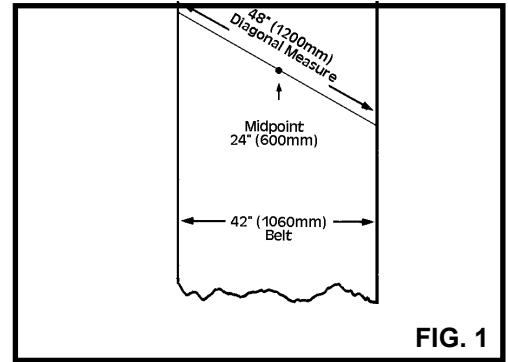

FIG. 1
- Remove the protective cap from the adjusting screw (Fig. 1).
- Loosen the Breather Cap on pump (Fig. 1).
- b. Mark the actual center points in belt width at intervals of 3 to 5 feet, for a distance of 15 to 20 feet back from the intended splice area (Fig. 1).